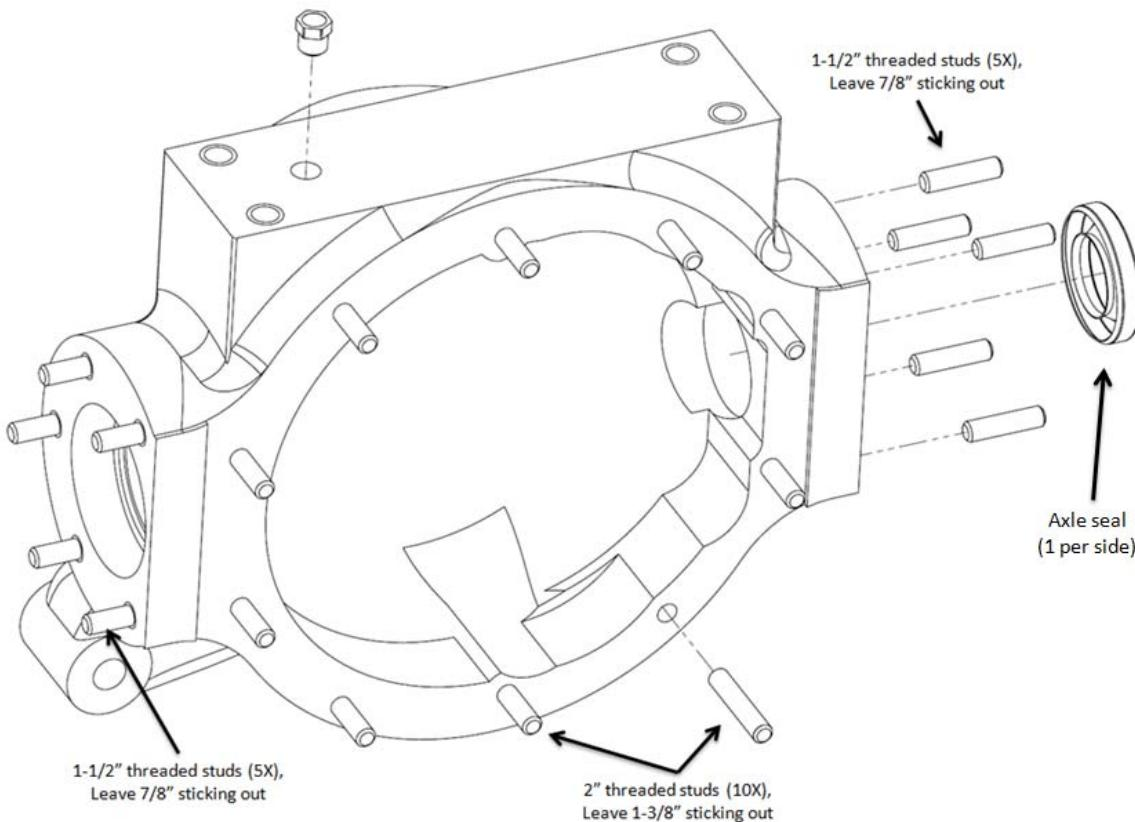

Figure 1. Install the vent, seals, threaded studs and drain plug (not shown) into the rear end housing
- 2) Next, install the threaded studs into the housing. There are 20 studs total, 10 are 1-1/2" long, and 10 are 2" long. Using a high strength thread locking compound, apply a few drops to each stud before installation. The shorter studs get installed onto the housing ends (5 on each side) for the caliper brackets and the longer studs get installed on the mounting face for the third member housing. The short studs should be installed with 7/8" protruding from the housing ends, and the long studs should be installed with 1-3/8" protruding from the third member mounting face, see Figure 1.
- 4) Bolt the top crossmember to the top of housing with the upper link mounts facing down towards the ground, and the vent hole on the right (passenger) side as shown in Figure 1. Attach using QTY=4, $\frac{1}{2}$ " X 2- $\frac{1}{2}$ " bolts, and 12mm washers supplied in the kit (metric washers are used here due to their small outer diameter). **Torque to 70-75 ft lbs.** Slip QTY=2, $\frac{1}{2}$ " X 6 $\frac{1}{2}$ " Bolts into the upper shock sleeves. Make sure that the threaded end is facing the rear of the housing. The bolts are slid into the sleeves now, because once the cross member is lifted in place and bolted to the saddles, there is no room to slide the bolts through sleeves.